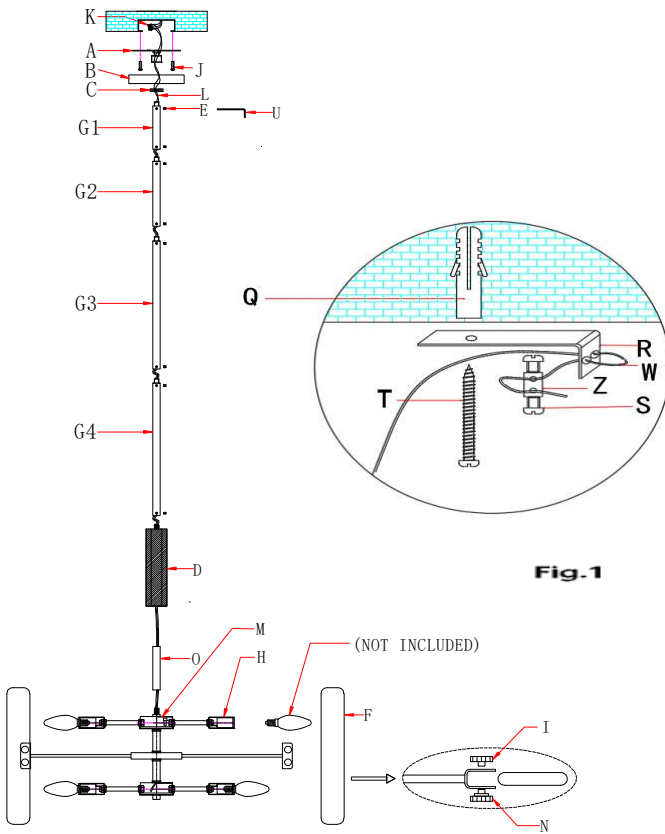

Fig.1
4. Remove mounting plate(A) from the canopy(B) by unscrewing the collar (C).
5. Pass the power wire (L) through the Rod (O), the hexagon metal post(D), the rods (G4), (G3), (G2), and (G1) in turn. Screw the Rod (O) and the hexagon metal post(D) to the lamp body (M) till tight. Then screw the rod (G4) to the hexagon metal post(D) until tight. Repeat the same operation with rods (G3), (G2), and (G1). When you connect the rods, loosen the small hex screws (E) in the side hole first, then tighten them with an Allen wrench (U) after all rods are connected. Ensure that all the hexagonal screws are tightened securely.
6. Put the collar loop (C) and canopy (B) onto the rod (G1) in sequence, then thread the power wire (L) through the mounting plate (A). Secure the rod (G1) to the nipple of the mounting plate (A) until it is tight.
7. Attach the aircraft wire (W) to a solid structure in accordance with the local building code. Position the bracket(R) at the desired location on the ceiling and mark a spot with a pencil to drill a hole. Drill one hole at the marked spot and insert the anchor(Q) into the drilled hole. Fix bracket (R) with a strengthened screw (T) by screwing it into anchor (Q). Remove the coupling (Z) from the aircraft wire (W) by loosening 2 screws (S) before installation. Pass the aircraft wire (W) through 2 holes on the bracket (R), then pass the aircraft wire (W) through 2 holes on the coupling (Z) and secure it with 2 screws (S) as shown in Fig. 1. Then, tighten the two screws (S) with a screwdriver. Be sure to tighten the two screws attached to the coupling (Z).